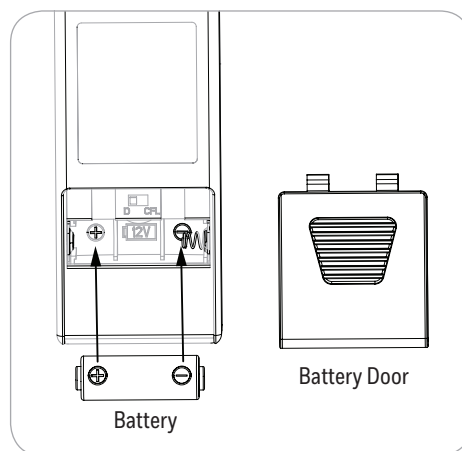

Figure 5.8
- Remove the battery cover from the back of the remote transmitter and insert the 12-volt battery, noting polarity -- positive (+) to positive (+) and negative (-) to negative (-). Replace the battery cover. If battery is installed correctly, the LED indicator on the front of the remote transmitter should illuminate when any button is pushed (Figure 5.8).